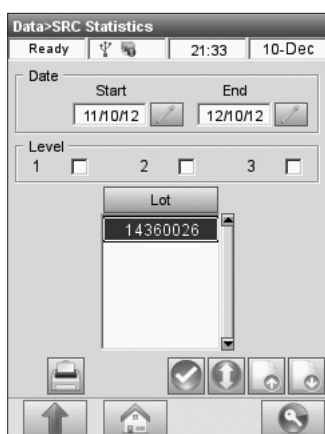

Fig. 6-9 SRC Statistics
3. In the **<Data>SRC Statistics>** screen (Fig. 6-9), press to select a **<Start>** date and **<End>** date for the statistics report to be printed.
6. To print results for individual lots, highlight the desired lot (Fig. 6-9).